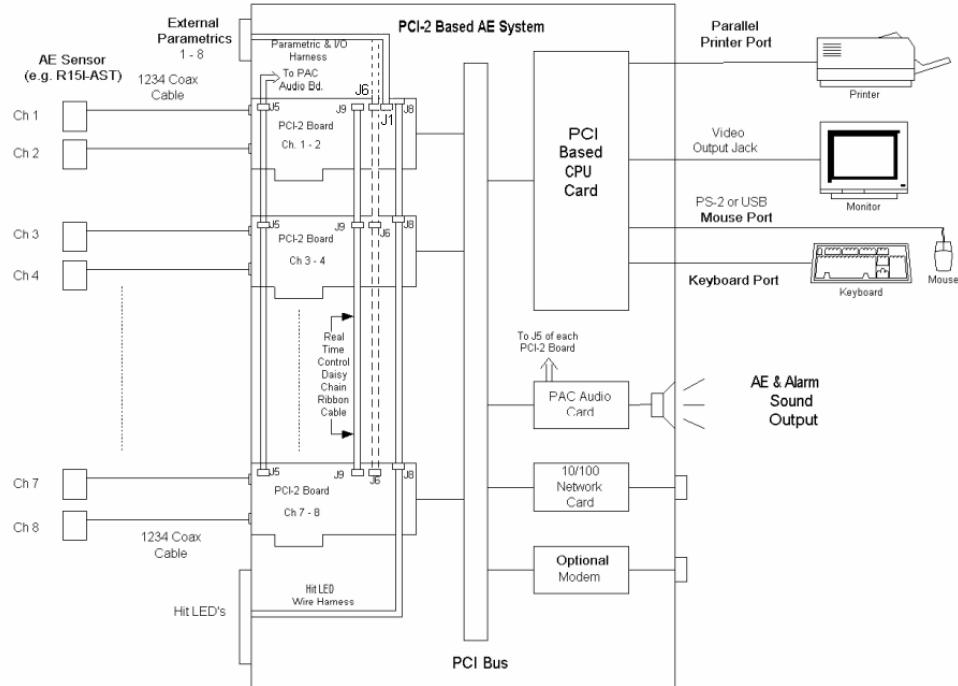

Figure 1. PCI-2 system Connection Block Diagram
Please identify all the components received against the order and in relation to figure 1 of this chapter, which shows all the typical components and their connection to form a complete PCI-2 based system. When all components are fully understood please proceed on to the PCI-2 card and system installation.
Set up the system in accordance with Fig. 1. The following sub-sections provide additional setup information and instructions on each subsystem in the PCI-2 based system.
This, of course, is the easiest way to purchase and install a PCI-2 based system since all the installation details have been taken care of by Physical Acoustics. In this case the system installation is nothing more than that of connecting all the external devices to the computer as shown in Figure 1, without the need to worry about installing the internal components (which is also shown in figure 1).
4. Connect up the parametric harness to the rear panel in order to gain access to the parametric inputs. If only 2 parametrics are needed, only the first PCI-2 board needs to be connected to the rear panel using the J6 connector (see figure 1). If 4 parametrics are needed, a harness connecting the first two PCI-2’s needs to be connected to the J6 connector. For 6 parametrics, the first 3 PCI-2 cards needs to be connected while for 8 parametrics (the maximum available), all four (4) PCI-2 boards needs to be connected to the J6 connector. If using revision 3 or newer, all 8 parametrics are available from J1 without interconnecting the 2nd, 3rd or 4th board. If the newer board is used as the 2nd, 3rd or 4th board and a 2-channel parametric is used as the 1st board, an interconnect cable is required and only the first two (of the 8 parametric channels) channel will be active on the rev 3 or newer board.
Assuming that the PC computer(or PCI-2 Based System Chassis) has been configured as indicated in the previous sections then it is ready to be connected to the peripheral items as shown in Figure 1. Most of these connections are standard ones for installing any PC computer. Also, Physical Acoustics provides labels to show exactly what should be plugged into a given connector on the PCI-2 based system. Following Figure 1 specific instructions are as follows: